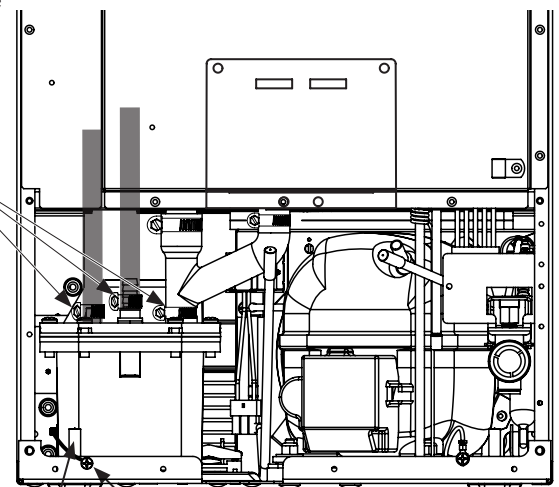
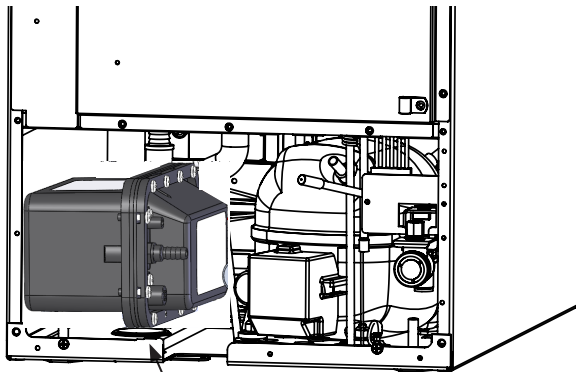

Figure 38
Figure 42
4. Unscrew the 3 hose clamps and remove the 3 hoses from the front of the drain pump. (See Figure 38).
5. Unscrew the leveling leg in the back corner until the end of the threaded portion is flush with the threaded nut insert in the base. (see Figure 38).
6. Rotate the drain pump and remove from the ice machine, (See Figure 42). It may be necessary to disconnect the ground wire connection in the back flange of the cabinet. (See Figure 38).